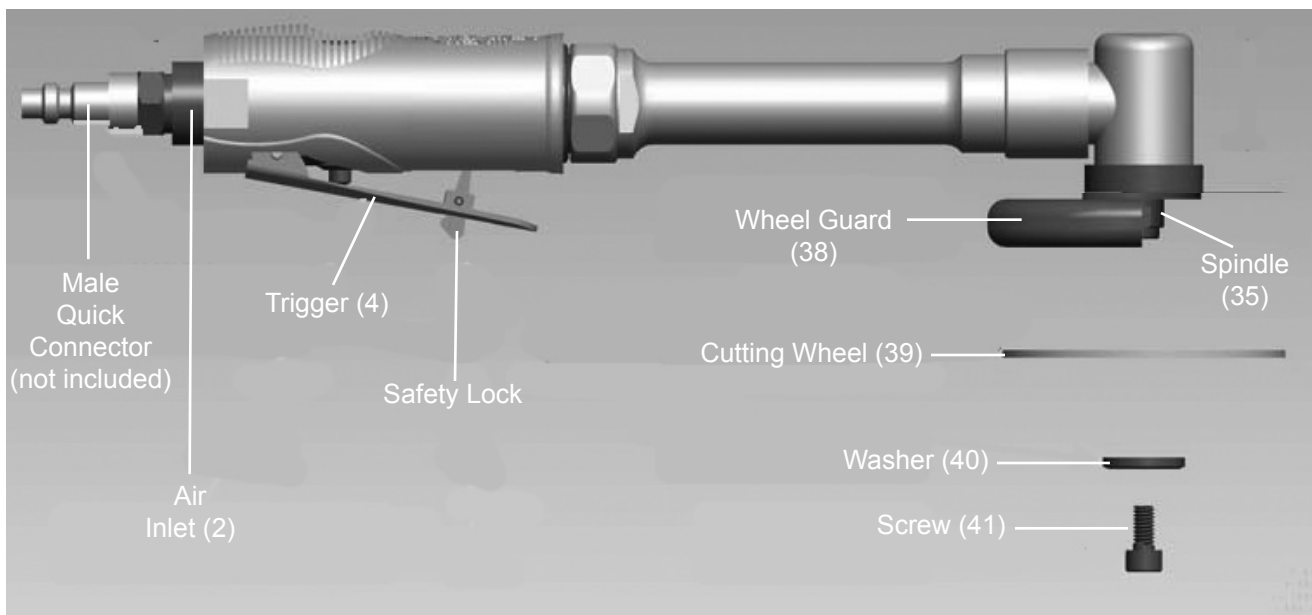

Figure 1
2. Use Spanner (44) to hold Spindle (35) in place while, at the same time, loosening the Hex Bolt (41) and Flange (40) with Hex Key Wrench (45). See Figure 1, below.
4. Insert the Hex Bolt through the Washer (40) and the Cutting Wheel, and back into the Spindle.
5. Use the Hex Key Wrench (45) to tighten the Hex Bolt on the Spindle until the Cutting Wheel is secure.